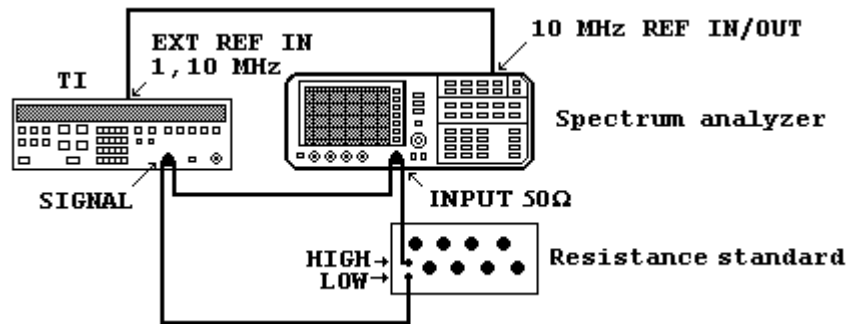

Figure 1. Harmonic distortion - equipment setup.
(9) Enter **40 kHz** using TI **DATA** keys. Adjust spectrum analyzer controls to display 40 kHz fundamental and at least four harmonics. All harmonics will be at least 65 dB below fundamental.
(10) Disconnect TI from spectrum analyzer.
(11) Connect TI **SIGNAL** to audio analyzer **INPUT HIGH** using 50Ω feedthrough termination.
(12) Press keys and enter values using **DATA** keys as listed in (a) through (c) below:
(13) Set audio analyzer to measure distortion in dB. Audio analyzer indication will be  $\leq -65$  dB.
(14) Perform (15) through (19) below for option 002 only.
(15) Connect equipment as shown in figure 1 and set resistance standard to 470 $\Omega$ .